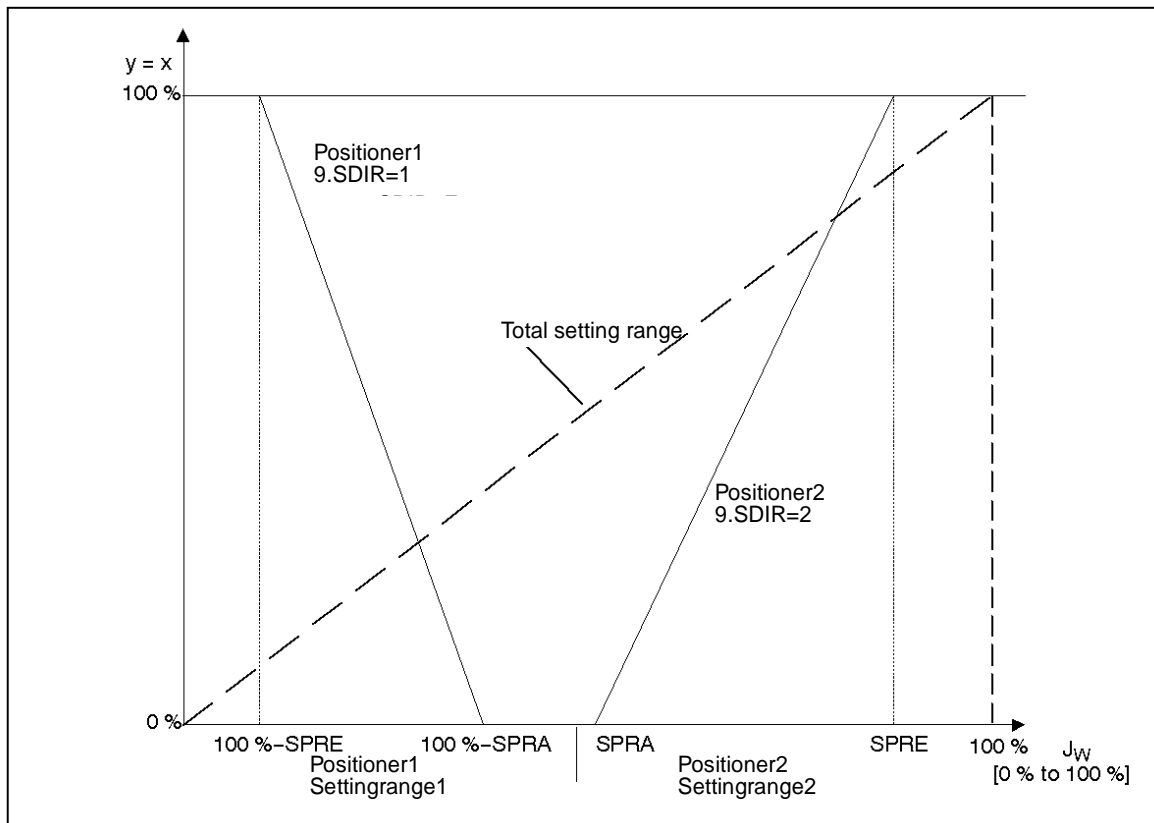

Figure 12: Split range-operation with two positioners
9.SDIR: Setpoint direction (see figure 12)
10.SPRA: Split range start (see figure 12)
11.SPRE: Split range end (see figure 12)